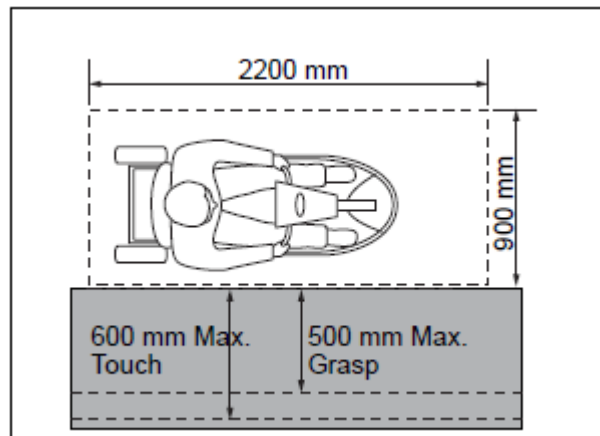

Figure 2: Clear Floor Space for a Side Approach
- 900 mm wide by 2200 mm long minimum for a side approach (See Figure 2)